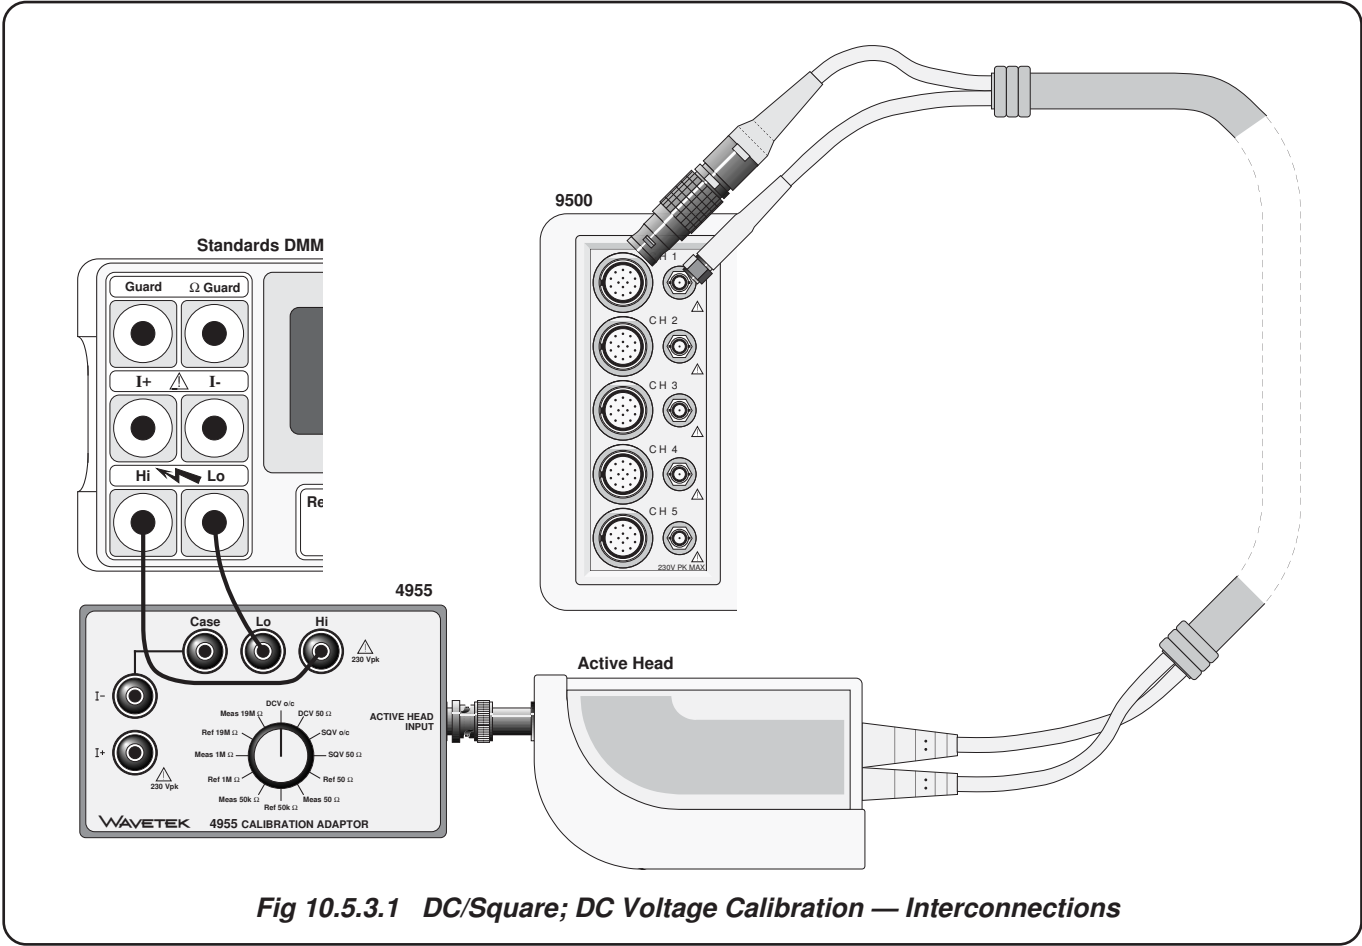

Fig 10.5.3.1 DC/Square; DC Voltage Calibration — Interconnections
1. **Connections** Ensure that the 9500B is connected to the Standards DMM as shown in *Fig. 10.5.3.1*, or via a similar BNC-4mm adaptor, and that both instruments are powered on and warmed up.